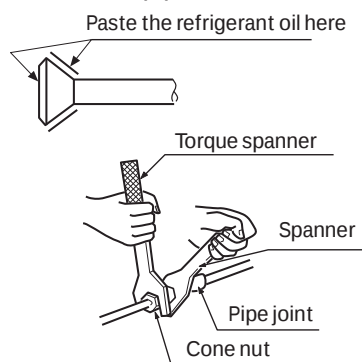

Fig. 7
- Use both back up wrench and torque wrench, as shown in the Fig.7 to secure lines to the valve box.